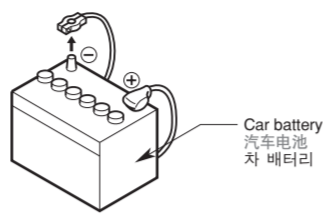

Figure 1 / 圖 1 / 그림 1
3. Be sure to disconnect the battery "⊖" terminal before starting. This is to prevent short circuits during installation. (Figure 1)
3. 开始之前请务必断开电池的“⊖”端子, 以免在安装中造成短路。(图1)